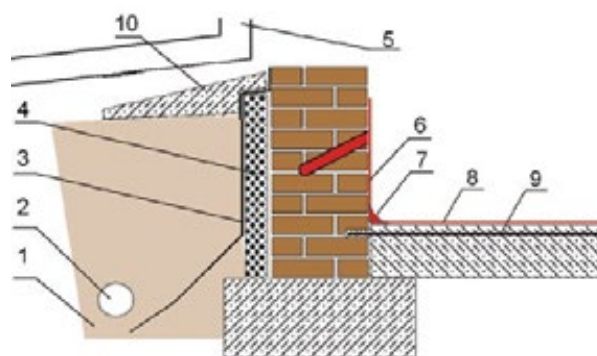

Fig. 3. A wall section with possible drainage.
The wall should be carefully cleaned of traces of render and efflorescence, preferably using a small diamond disc on an angle grinder with adjustable speed. The grout should be hollowed out to a depth of 0.5-1cm. The cleaning can be done with a scabbler, drill-mounted brush or using another method. Vertical waterproofing is made from mortar composed as follows (by weight): 1 part Hydrostop-Injective, 3 parts coarse washed sand and 0.6 parts water. In mixing the mortar a lot of dryness can be observed initially - Hydrostop-Injective gradually dissolves in water for 2-3 minutes. The amount of water can be slightly different depending on the moisture content in the sand. In practice the amount of water should be such as to yield mortar that will stick to the bricks and will not flow down with a layer thickness of 2.5cm. The first layer of the mortar is pressed into the pre-moistened substrate with a putty knife. Once this first layer starts binding, the rest of the compound is applied. The applied mix of Hydrostop-Injective and sand should be worked in like ordinary render, ensuring that the minimum total thickness is not less than 0.6cm and the maximum not more than 1.2cm. A wedge-shaped seal is made at the joint between the wall and the floor instead of the render (see Fig. 3, item 7). The yield of Hydrostop-Injective is about 3.8kg/m².
vapor condensation on top of the render made from Hydrostop-Injective no. 721. If it is impossible to ensure proper ventilation, it is recommended that an extra layer of Hydrostop-Plast or Hydrostop-Mortar be applied. Apart from these steps it is good (especially for water-impermeable ground) to install outside heat insulation for the building, a vapor barrier and to transport rainwater farther from the building (as in fig. 3), with a possible drainage installed as well. Moisture barriers are usually made for the outside walls of a building. However, it needs to be ensured that the partition walls do not soak with water, either. For this it is usually sufficient to make a 30cm-wide strip of vertical waterproofing (using Hydrostop-Injective) on the partition wall along the connection of the outside wall with the corner of the partition wall. For partition walls thicker than 25cm vertically arranged holes are drilled, with a minimum of ten holes per 1m of length, and vertical waterproofing is additionally made. The outside walls of the building should have heat insulation if possible up to a level of at least 50cm above the top row of injection holes as shown in Fig. 3. Depending on the local conditions, such insulation should be made of extruded polystyrene (XPS) or expanded polystyrene (EPS), or possibly hard mineral wool. The minimum thickness of the external insulation is 10cm.